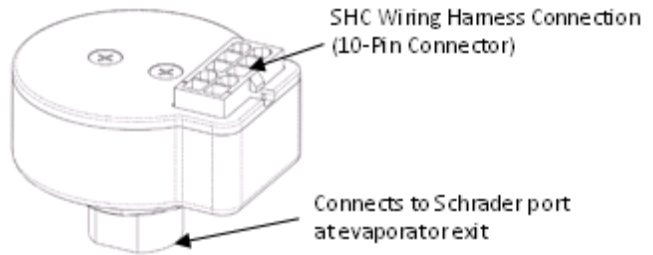
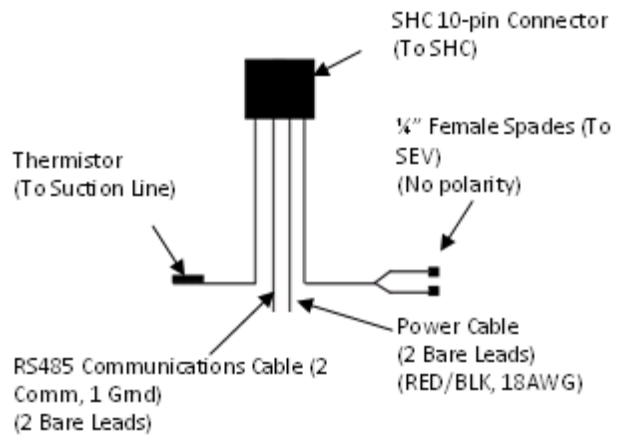

Figure 5: Superheat Controller Schrader Ports
Figure 6: SHC Wiring Harness Diagram
4. Attach the SHC wiring harness (10-pin connector) to the SHC and install the Thermistor (See Figure 5, and Figure 6).
The SHC Wiring Harness includes a large 10-pin white Molex connector that fits into the SHC and a Thermistor. (See Figure 6)